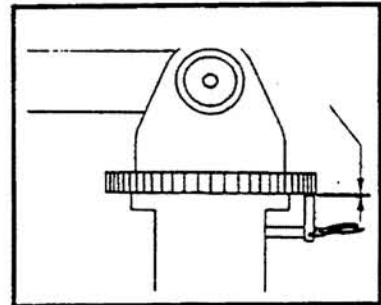

Figure 4
6. Using a feeler gauge, measure the difference between point "A" and the underside of the turntable. If the clearance is less than 1/16" or .060 (1.6mm) then the bearing is within the safety margin, and continue with the next step. However, if the play is greater than 1/16" or .060" (1.6mm) then it is beyond the safety margin and is in need of replacement. (See Figure 4.)